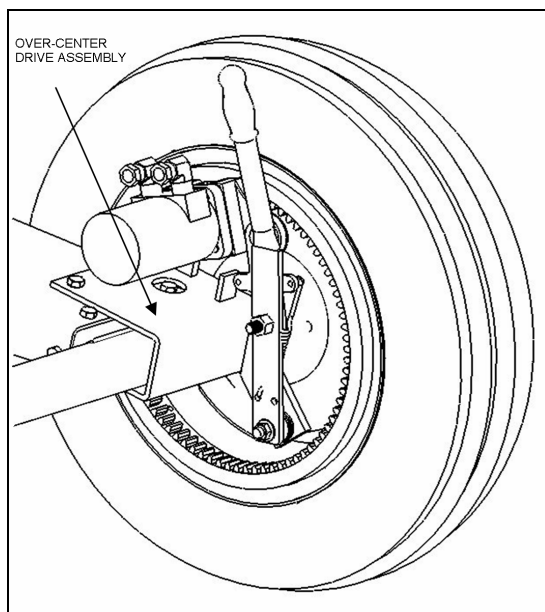

Figure 3.5 Over-Center Assembly Positioning
1. Bolt the over-center drive assemblies onto the axle (Figure 3.5): one LH and one RH. Use two 7/16" x 1" bolts and locknuts each side.